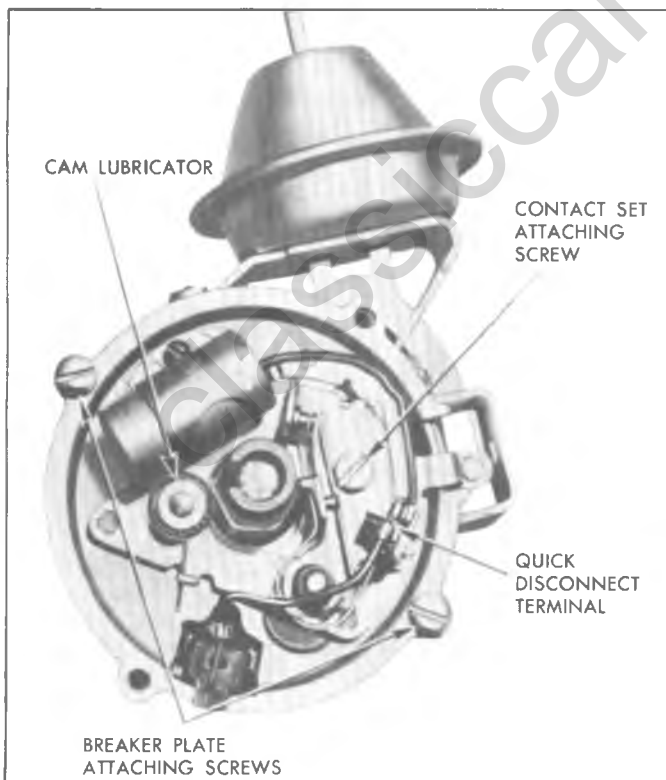

Fig. 13i—Breaker Plate and Attaching Parts
3. Pull primary and condenser lead wires from contact point quick disconnect terminal (fig. 13i).
#### Six Cylinder Engine Distributor (Fig. 13i)